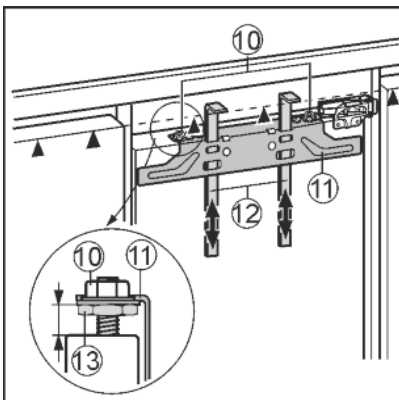

Fig. 17
- Raise the fitting aids Fig. 17 (12) to unit door height. Bottom stop edge of ▲ the fitting aid = top edge of the unit door to be fitted.
- Unscrew the crosspiece Fig. 17 (11) by undoing the locknuts Fig. 17 (10).